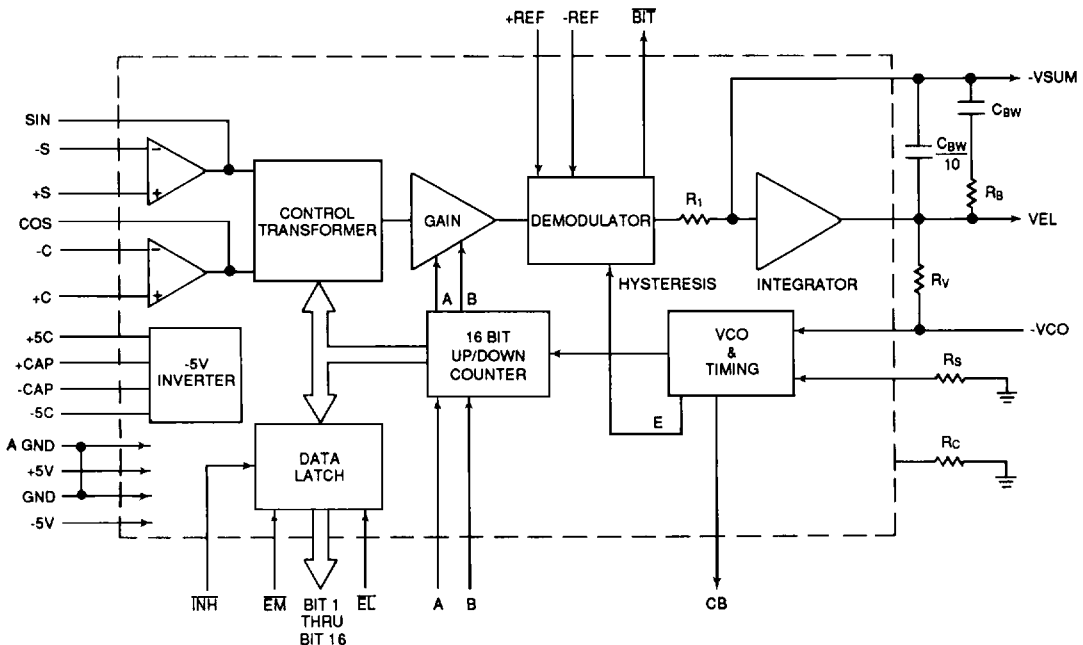

FIGURE 1. RDC-19220 SERIES BLOCK DIAGRAM
FIGURE 1 is the Functional Block Diagram of RDC-19220 Series. The converter operates with ± 5 Vdc power supplies. Analog signals are referenced to analog ground, which is at ground potential. The converter is made up of two main sections; a converter and a digital interface. The converter front end consists of sine and cosine differential input amplifiers. These inputs are protected to ± 25 V with $2\text{ k}\Omega$ resistors and diode clamps to the ± 5 Vdc supplies. These amplifiers feed the high accuracy Control Transformer (CT). Its other input is the 16-bit digital angle ϕ . Its output is an analog error angle, or difference angle, between the two inputs. The CT performs the ratiometric trigonometric computation of $\text{SIN}\theta\text{COS}\phi - \text{COS}\theta\text{SIN}\phi = \text{SIN}(\theta - \phi)$ using amplifiers, switches, logic, and capacitors in precision ratios. **Note:** The transfer function of the CT is normally trigonometric, but in LDVT-mode the transfer function is triangular (linear) and could thereby convert any linear transducer output.